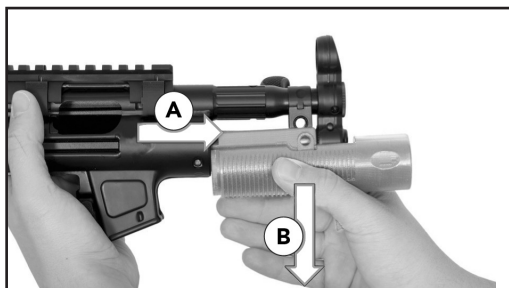

Fig. 38 – Remove pistol grip
7. Pull handguard towards muzzle ㊶ and downwards ㊷ to remove it (Fig. 38).